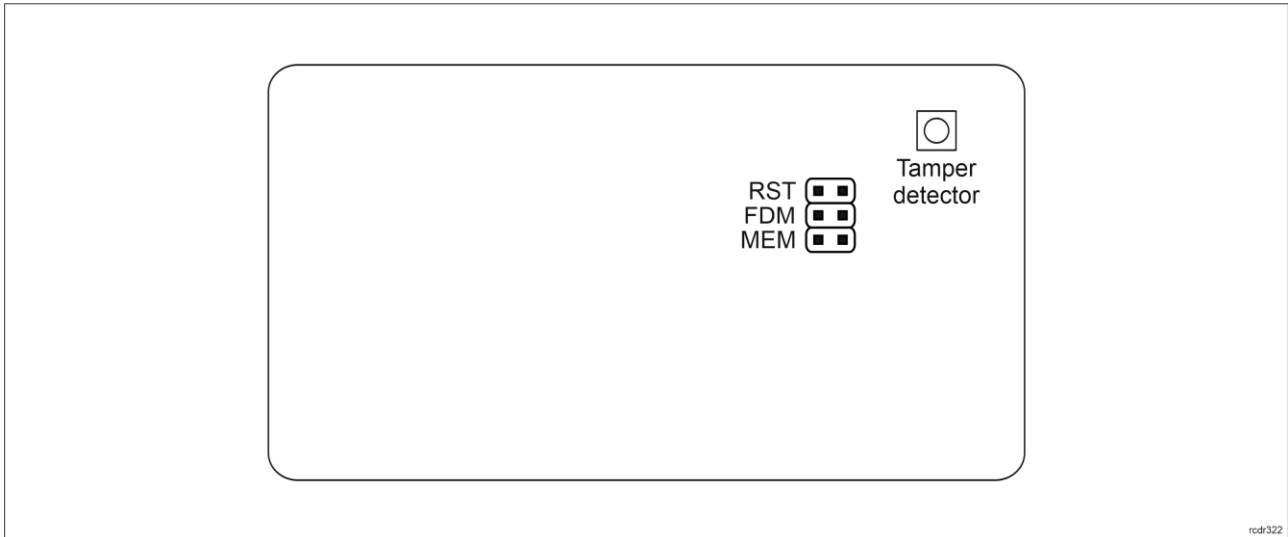

Fig. 5 Programming jumpers
Built-in tamper (sabotage) detector enables detection of unauthorized opening of device's enclosure as well as detachment of the enclosure from wall. The detector is internally connected to the terminal's input. It does not require low level configuration (VISO v2 or RogerVDM) or any additional installation arrangements but it is essential to mount front panel in such way as the tamper detector (fig. 5) would firmly press the back panel. The detector requires high level configuration which consists in assignment of the function [133] *Tamper Toggle* on the level of a *Main Board* of a controller in VISO software navigation tree.
- Front panel should be attached in such way as the tamper detector (fig. 5) would firmly press the back panel.
2. Remove jumper from MEM contacts (fig. 5) if it is placed there.
2. Place jumper on MEM contacts (fig. 5).